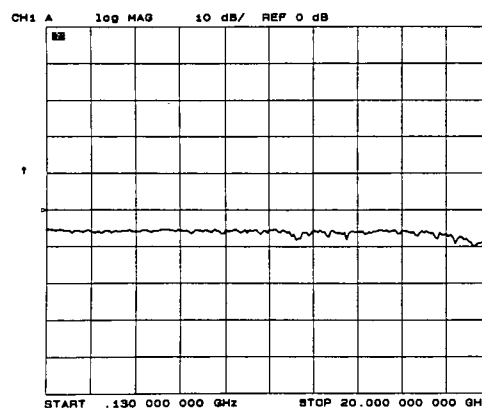

Figure 2. Directional Coupler Check CRT Trace
To quickly check the directional coupler by elimination, connect the RF flexible cable from the output of A68 (the step attenuator) directly to the J2 RF INPUT of the suspect signal path sampler. Press [SYSTEM] [SERVICE MENU] [INPUT PORTS] [A] or [B] and compare the trace to Figure 2.
- Trace similar* to Figure 2: the sampler is good, therefore the coupler is lossy. Replace the coupler.